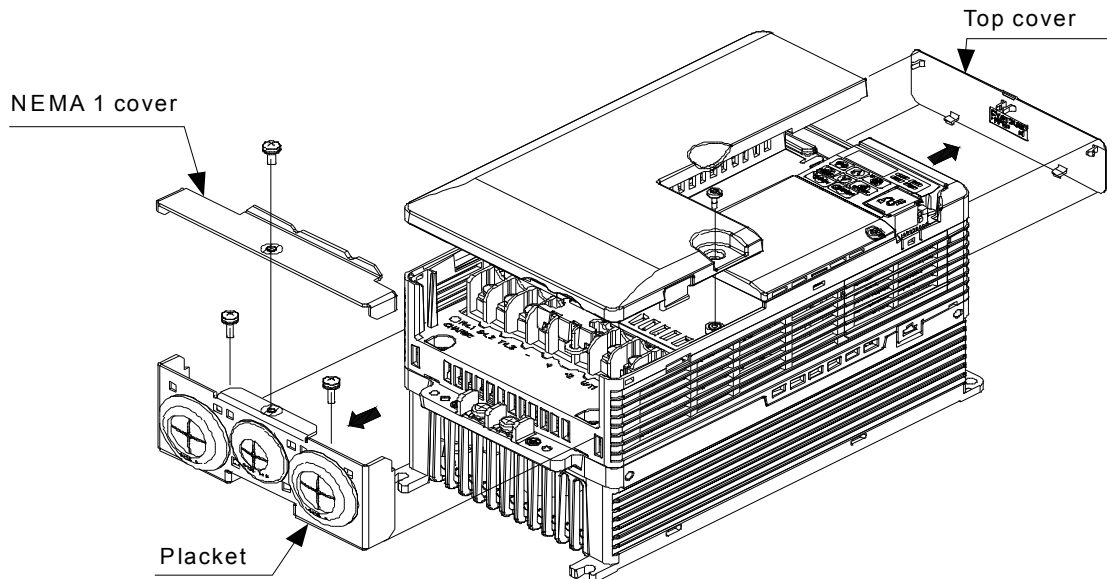

Figure 12: Installation - Step 2
2. Remove terminal cover, top cover, NEMA 1 cover and placket. (Figure 12).